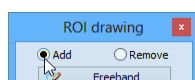

Figure 247 – Set Add/Remove mode for contour editing
2. Select the adding contour mode (see Figure 247). To add a drawn contour to the ROI, check the **Add** radio button. To remove a drawn contour from the ROI, check the **Remove** radio button.
2. Select the contour adding mode (see Figure 247). To add a drawn contour to the ROI, check the **Add** radio button. To remove a drawn contour from the ROI, check the **Remove** radio button.